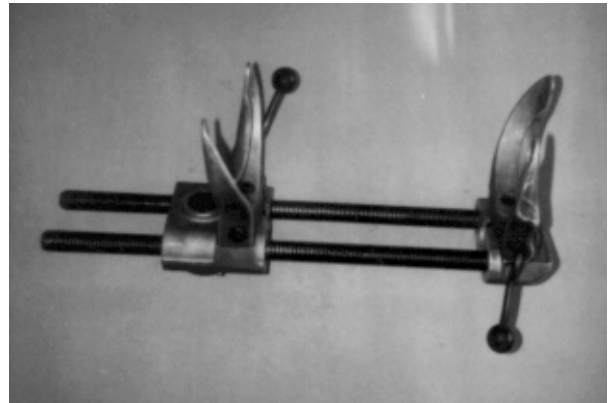

Figure 6
2. ☐ Compress a new coil spring (615 or 618) to 16" in length. Use a quality spring compressor like the one shown in figure 6.